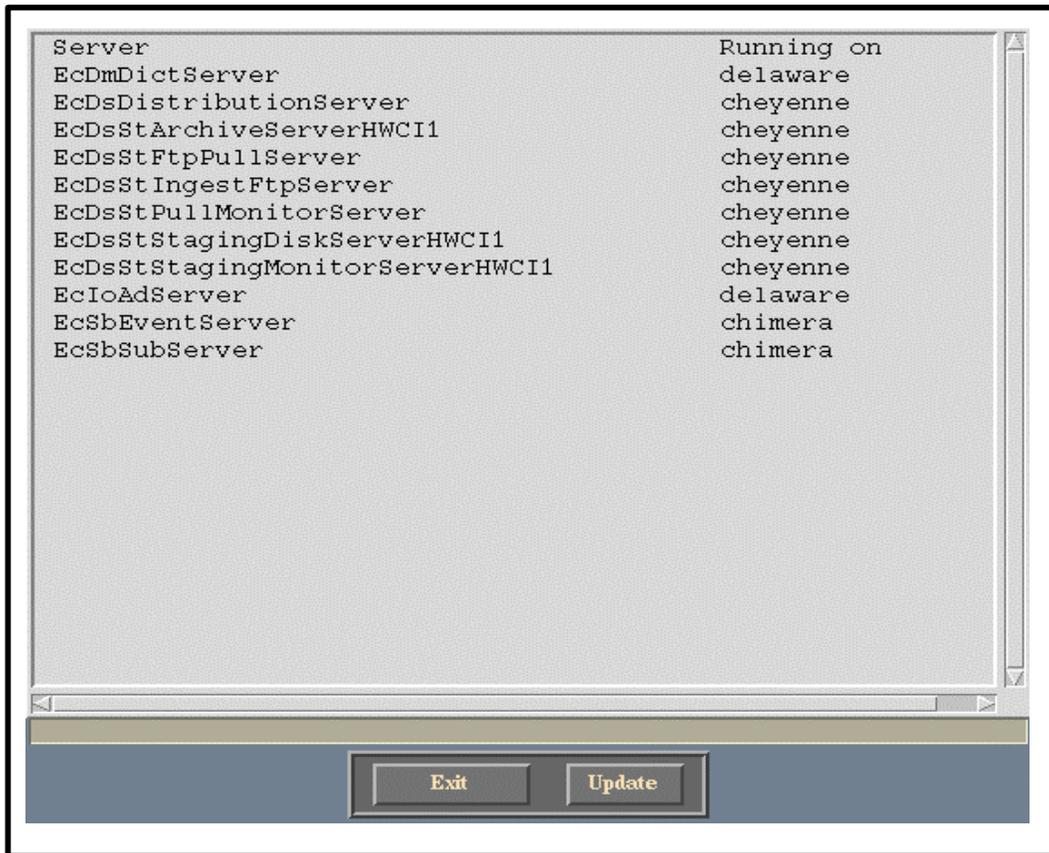

Figure 11.10-4. cdsping GUI
- This will invoke the **cdsping GUI** as indicated in Figure 11.10.4.